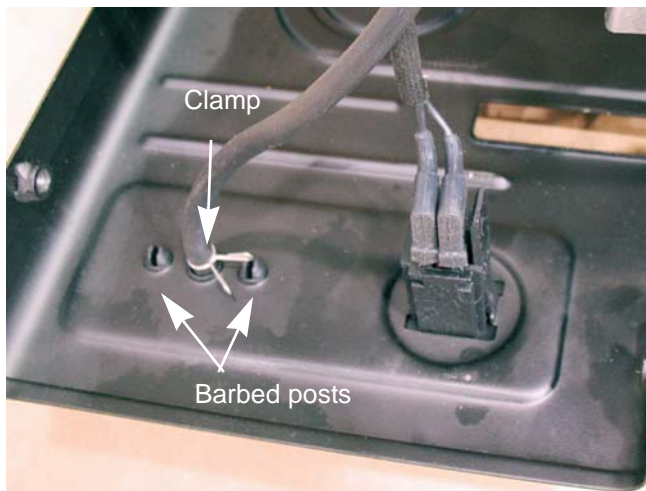

Figure 4.10
4. Remove the hose camp at the rear of the primer bulb. See Figure 4.10.
5. The primer is held to the shroud by a pair of split, barbed posts. Squeeze the posts to release the barbs. See Figure 4.10.